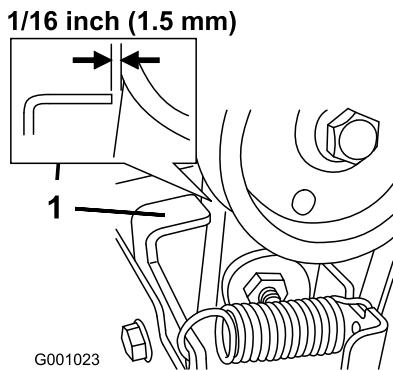

Figure 40
3. With the auger/impeller lever disengaged, ensure that the gap between the auger clutch assembly and the tab is $1/16$ inch (1.5 mm) (Figure 40).